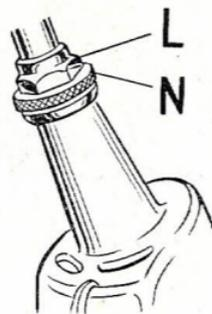

FIG. 14.
**The Steering Head:**—Check the head bearings regularly for slackness. The handlebars should rotate smoothly and freely, but without up and down play. If adjustment is necessary, slacken the locknut (L) Fig. 14, and tighten the ring nut (N), until the above condition is obtained, afterwards retightening the locknut. It is essential that the ring nut is not over-tightened otherwise the steering will become stiff and the ballraces damaged.